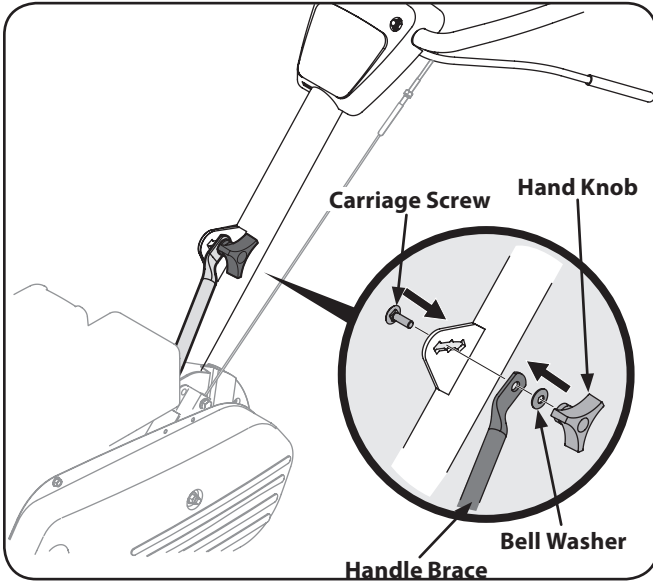

Figure 3-4
- Tighten the bolt securely after securing the handle brace as seen in Fig. 3-4.